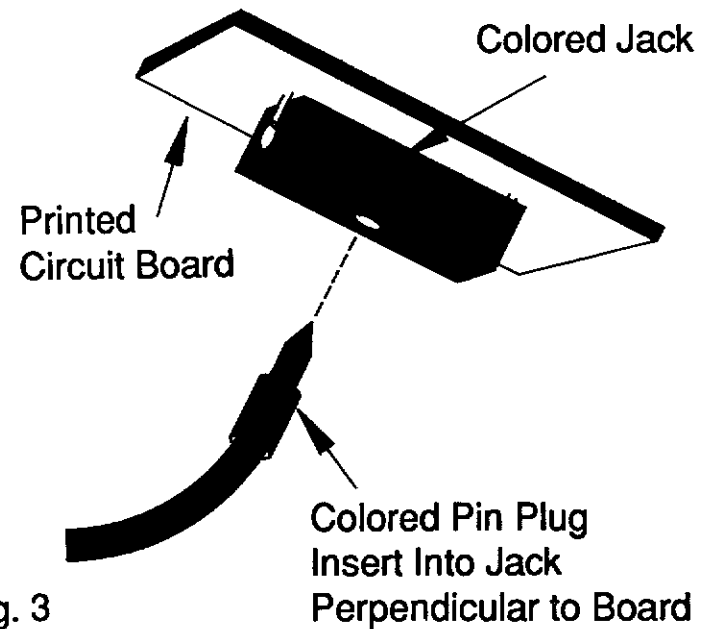

Fig. 3
9) Again lift-up the front edge of the interface chassis, and locate the 5 colored jacks (RED, BLUE, BLACK, YELLOW, WHITE) on the printed circuit board. Plug the array wires into these jacks, PERPENDICULAR TO THE BOARD, following the color code. Refer to Figure 3.